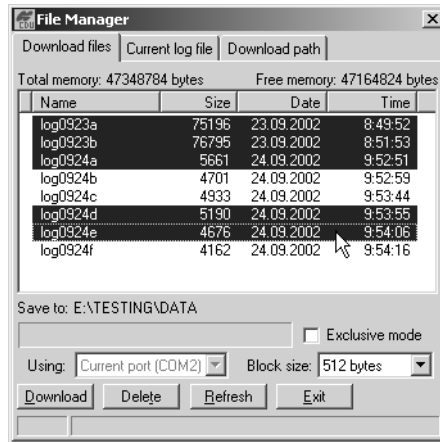

Figure 3-10. Download Files
8. Select the **Download files** tab and select the file(s) to download (Figure 3-10 on page 3-13).